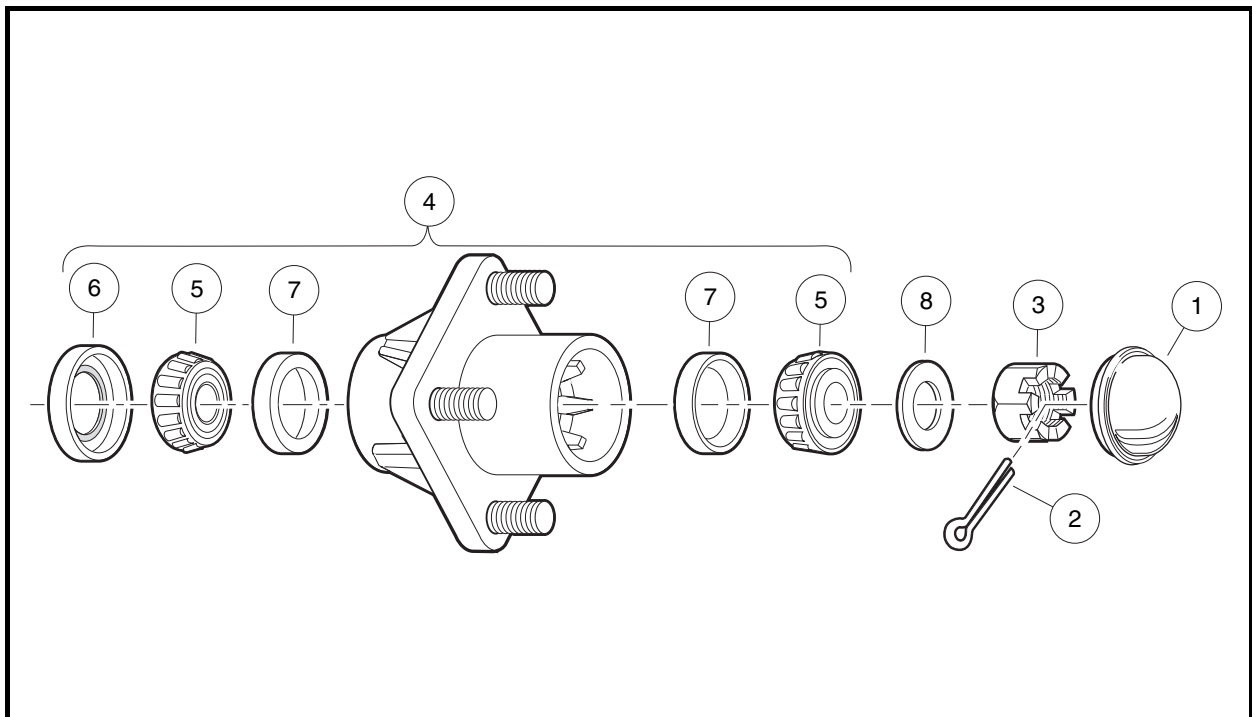

Figure 7-25 Front Wheel Bearings and Hub - Four-Wheel Brake Vehicles
2. Using your hands, attempt to rock the wheel and hub assembly back and forth on the spindle. If there is any observable movement of the wheel and hub on the spindle, remove dust cap (1) and cotter pin (2), and then tighten the spindle nut (3) until the bearing (5) fully seats in the bearing race (7) (**Figure 7-25, Page 7-25**).
4. Install a new cotter pin (2). If movement continues, replace the wheel bearings (5) as required.
- 2.1. Remove dust cover (1), cotter pin (2), spindle nut (3), and flat washer (8) (**Figure 7-25, Page 7-25**).
1. Pack the wheel bearings (5) and hub cavities, and lubricate cups (7) with wheel bearing grease or chassis lube. Make sure the grease is forced between the rollers (**Figure 7-25, Page 7-25**).
2. If bearing cups (7) were removed, press new ones in squarely against stops in the hub. **See following NOTE.**